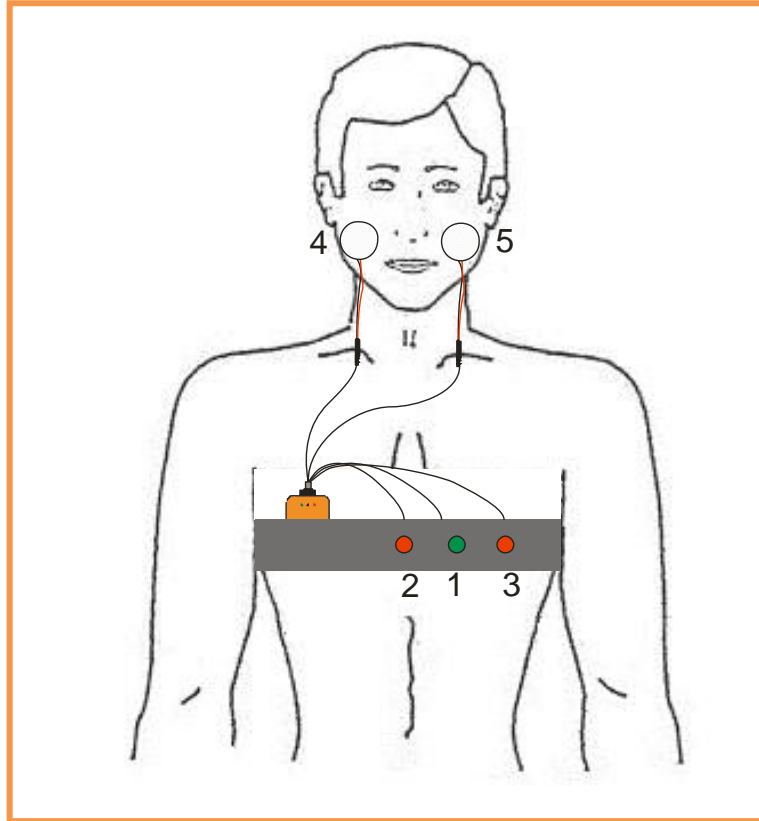

Fig. 2: Patient wearing the Bruxoff system
In fig. 2 it is shown how the Bruxoff system should be worn by the patient.
Apply the chest belt of the Bruxoff device as shown in fig. 2 and as described in the section “Application of the Bruxoff system”
- Wear the chest belt and the Array of electrodes as shown in fig.2 and wear it tight enough so that the electrodes previously applied are under the left pectoral muscle and in direct contact with the skin;